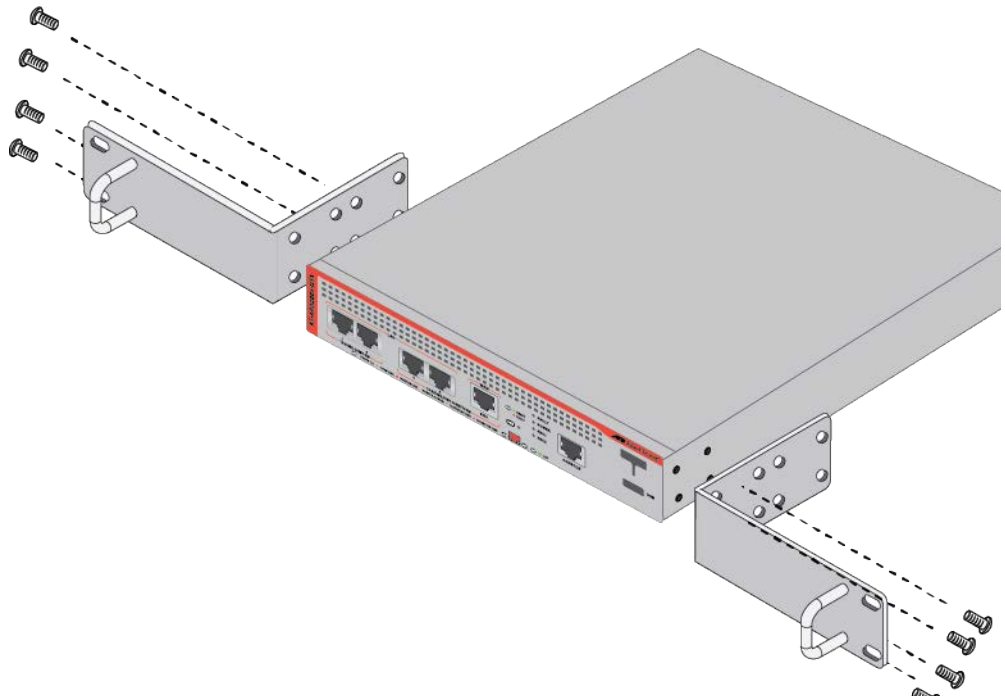

Figure 34. Attaching the RKMT-J14 Brackets to the Router
6. Attach the two brackets to the sides of the router in the selected position with the eight M4x6mm screws included in the RKMT-J14 kit. The illustration in Figure 34 shows the brackets being installed so that the front panel of the router will be even with the front of the equipment rack.